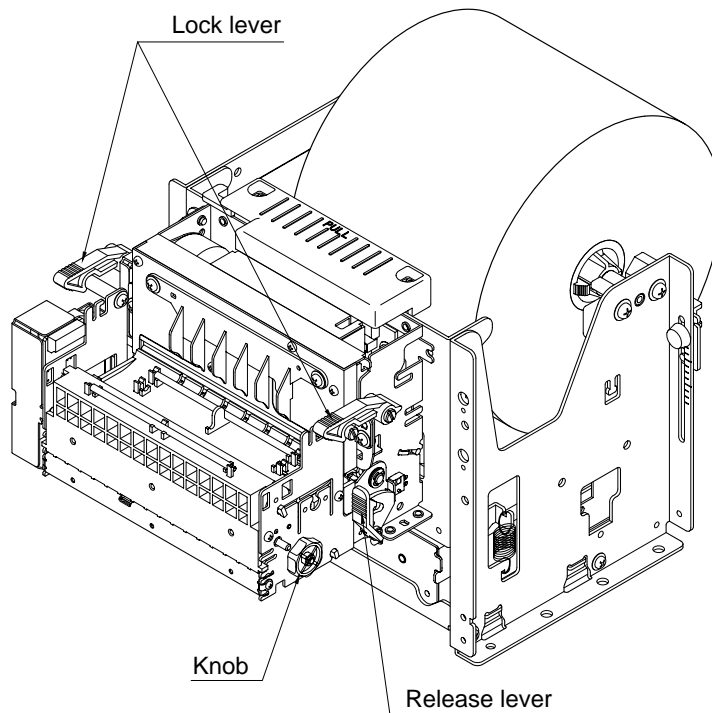

Fig. 2-1 Handling Paper Jams
Fig. 2-1 shows the locations to operate (levers/knob) when paper becomes jammed. Remove jammed paper according to the following procedures.
- 3) Fig. 2-1 is a conceptual view of a model equipped with a presenter. On models not equipped with a presenter, operate only the release lever to open the platen unit.